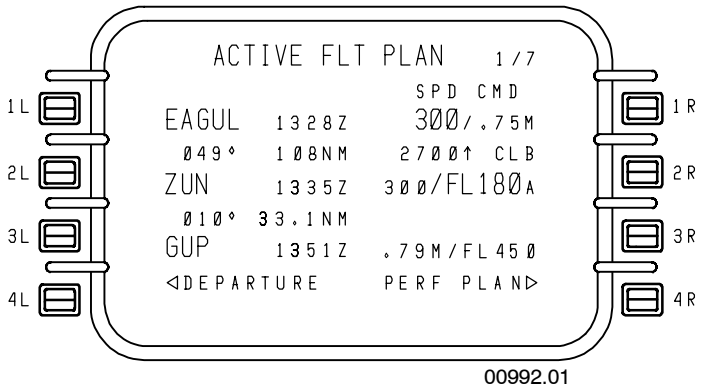

Figure 4-47
- **Waypoint Sequencing** - On takeoff, the runway becomes the FROM waypoint and remains on the top line of the ACTIVE FLT PLAN page. The TO waypoint appears on the second line. As the aircraft passes the TO waypoint, all waypoints scroll up one line. This is shown in Figure 4-47. This process is called waypoint sequencing.